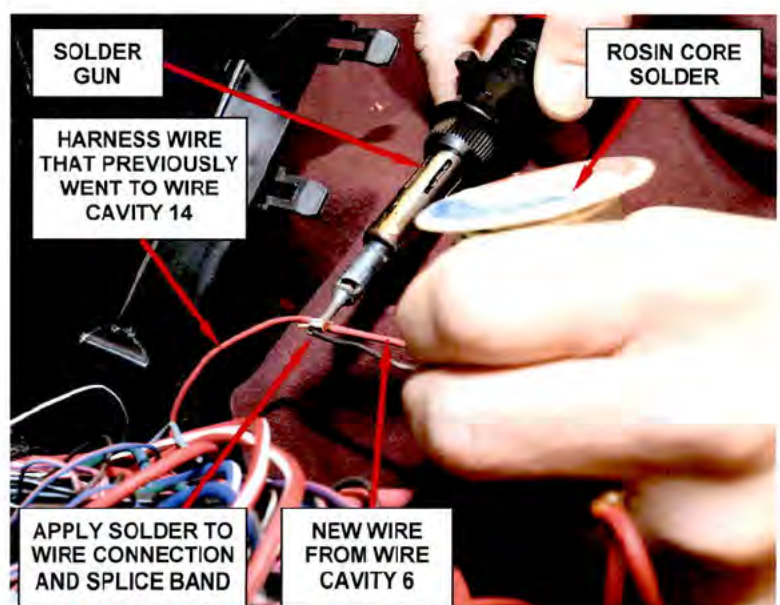

Figure 13 – Solder Wire
17. Solder the crimp installed in Step 16 with rosin core solder (Figure 13).